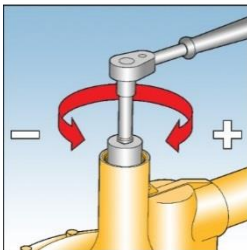

Fig. 11
33. Fully unscrew and remove the spring holder, See Fig. 11.
40. Fully unscrew and remove top spring holder. See Fig. 11.
42. Screw spring holder back in place, ensuring that castellated spigot is uppermost in chimney. See Fig. 11.
54. Screw top spring holder back in place, ensuring that castellated spigot is uppermost in chimney. See Fig. 11. (If UPSS only ensure that spacer tube is firmly clamped)